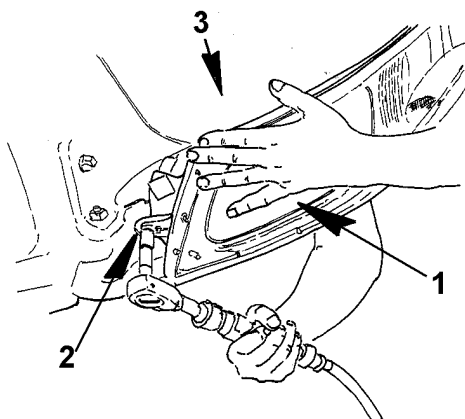

Figure 38 Headlight Housing Installation
2. Insert the headlight assembly mounting bolt (Figure 38, Item 2) into the headlight mounting tab and headlight assembly bolt hole.